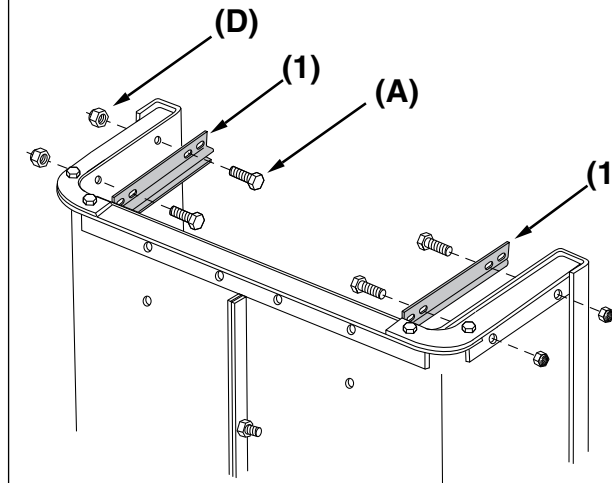

Figure 6
STEP 6 (SEE FIGURE 6): Attach the tailgate guides using two 1/4" x 5/8" hex bolts (A) and 1/4" nylock nuts (D) on each side. **Tighten all hardware from Steps 2-6.**